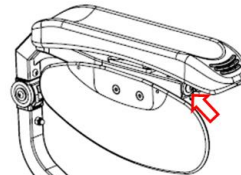
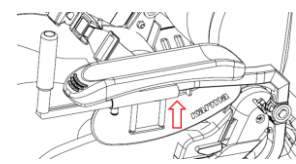

Figure 5.13
Figure 5.14
5.2.3.2 Use the #4 Allen key to loosen the screws. Adjust the armrest height and re-tighten the screws. (Figure 5-13, Figure 5-14)